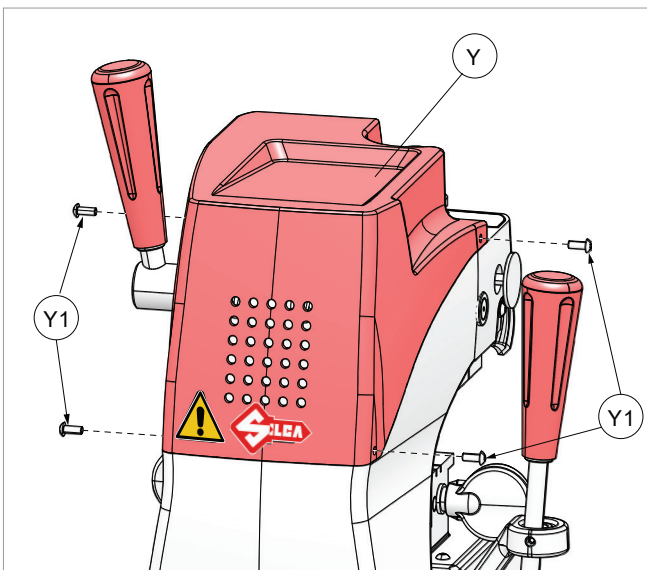

Fig. 39
- 1) Loosen the four screws (Y1) and remove the upper casing (Y) (Fig. 39).
- 4) Replace the upper casing (Y) and secure with the four screws (Y1).